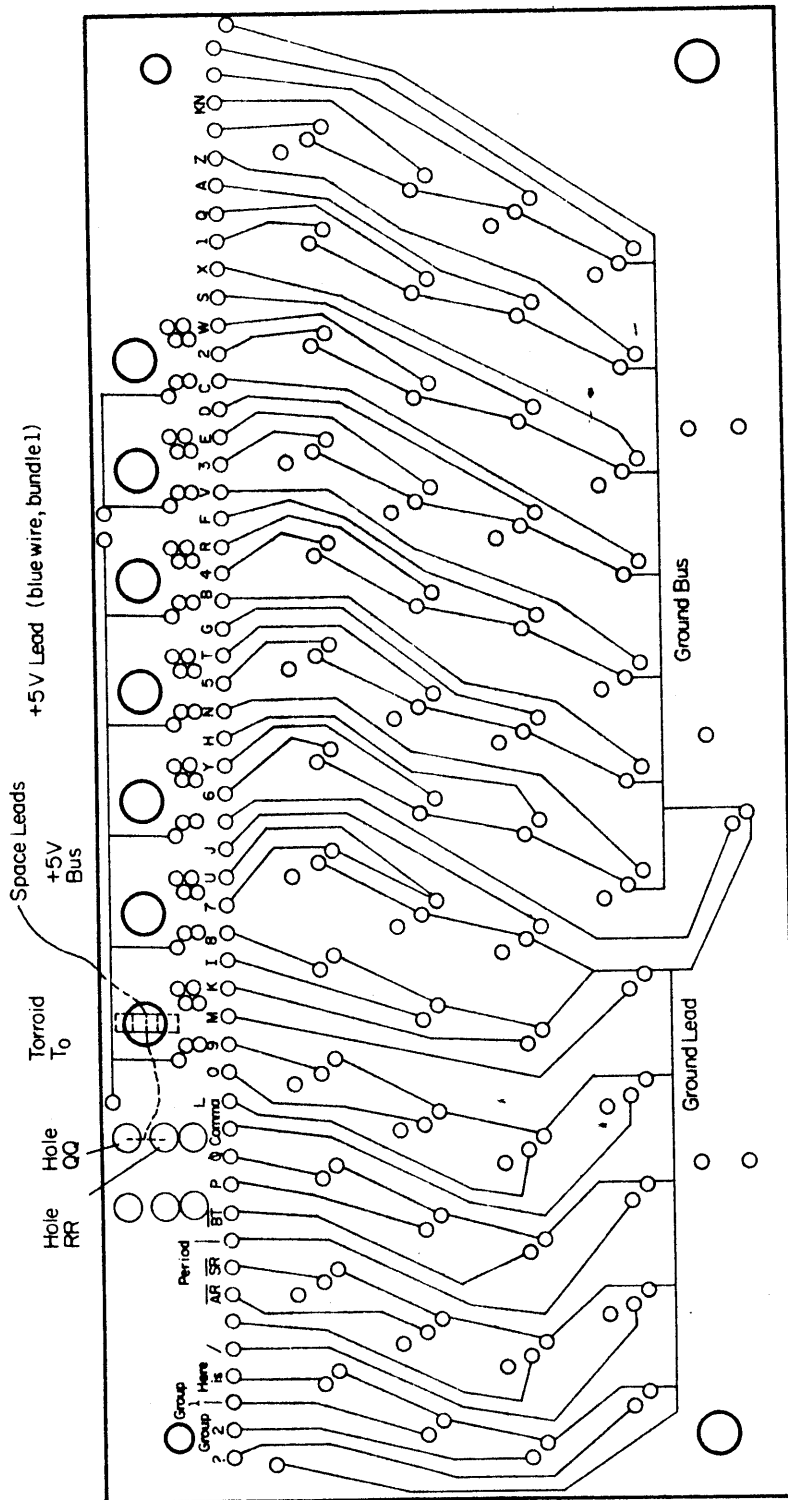

Fig. 1 MKB-1 Keyswitch Board (bottom view)
The wires listed in these tables will now be connected to the proper keyswitches. Figure 1 shows a bottom view of the MKB-1 keyswitch circuit board. Each keyswitch has two terminals. The grounded contacts of the switches are connected to a printed ground bus which runs along the front-panel edge of the circuit board. The "hot" side of the switches are connected by printed conductors to a row of pads near the toroid mounting holes.
the wire for that character to a keyswitch. Instead, route it to the top side of the keyswitch board, pass it through toroid T₀, and solder it to the bundle of leads connected to hole QQ or RR, as shown in Figure 1. It will be necessary to remove the four screws holding the keyswitch board in place and lift the board gently away from the cabinet to gain access to the toroid wiring.
Now, referring to Figure 1, install the three wires which connect the activating keyswitches to the KB-ID1 inputs:
1. Connect the blue wire of bundle 1 to the +5 volt bus which runs along the top edge of the board near the toroids, as shown in Figure 1. Lay the tinned end of the wire along the printed bus and solder it in place.